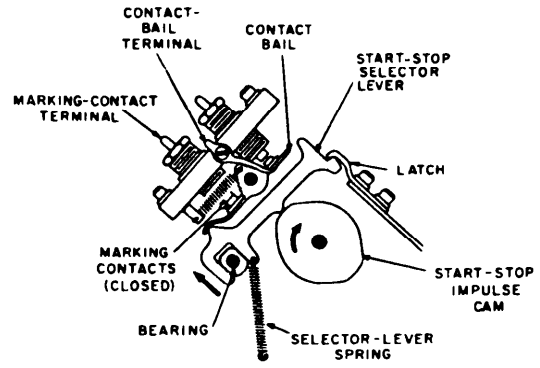

*Figure 2-8. Keyboard-transmitter, removed from teletypewriter.*
a. Thirty-one keylevers, five code bars, and five sensing levers (fig. 2-8) are used to select the code group to be transmitted (para 2-9).
Selection of a code group for transmission is made when the operator presses a keylever. The nature (marking or spacing) of each of the five code impulses is established when the downward movement of the keylever positions five code bars (fig. 2-8). The start and stop impulses do not vary from code group to code group; the start impulse is always a spacing impulse and the stop impulse is always a marking impulse. The five code bars (one for each code impulse) are located under the keylevers. The code bars are mounted on studs that are grooved to permit only horizontal movement of the code bars. The code bar closest to the front of the keyboard is used to determine whether the first code impulse is to be a marking or spacing impulse; the second, third, fourth, and fifth code bars are used to control the
When the space bar (fig. 2-8) is pressed and immediately released, one space code group is transmitted. When the space bar is held down, repeated space code groups are transmitted until the space bar is released. Reception of the space code group causes the carriage of the page printer to move one space to the right without printing a character. The space code group is the only code group that can be transmitted repeatedly with one downward movement of a keyboard control.